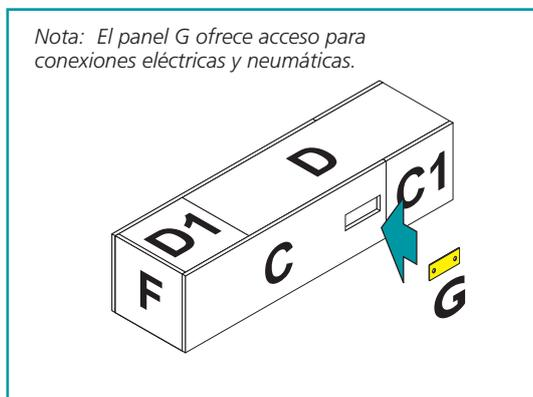

figura 11
2.2.10 Monte el panel G al panel C. (figura 11)